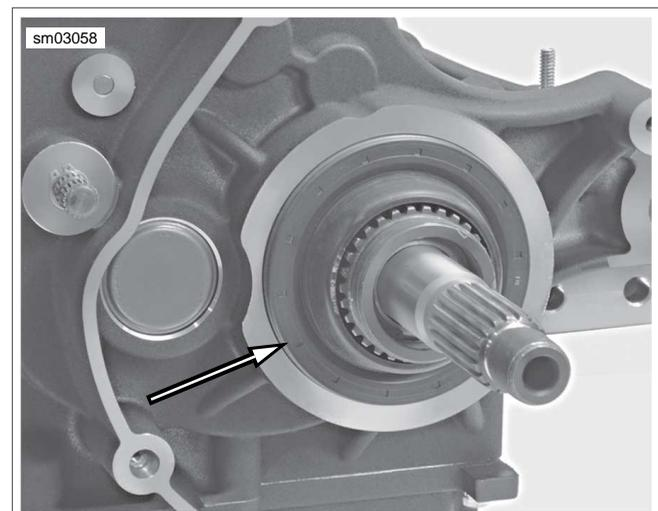

Figure 7-50. Place Main Drive Gear Seal Over Pilot
- See Figure 7-50. Place seal over pilot with garter spring facing bearing, and position seal squarely in end of crankcase bore.